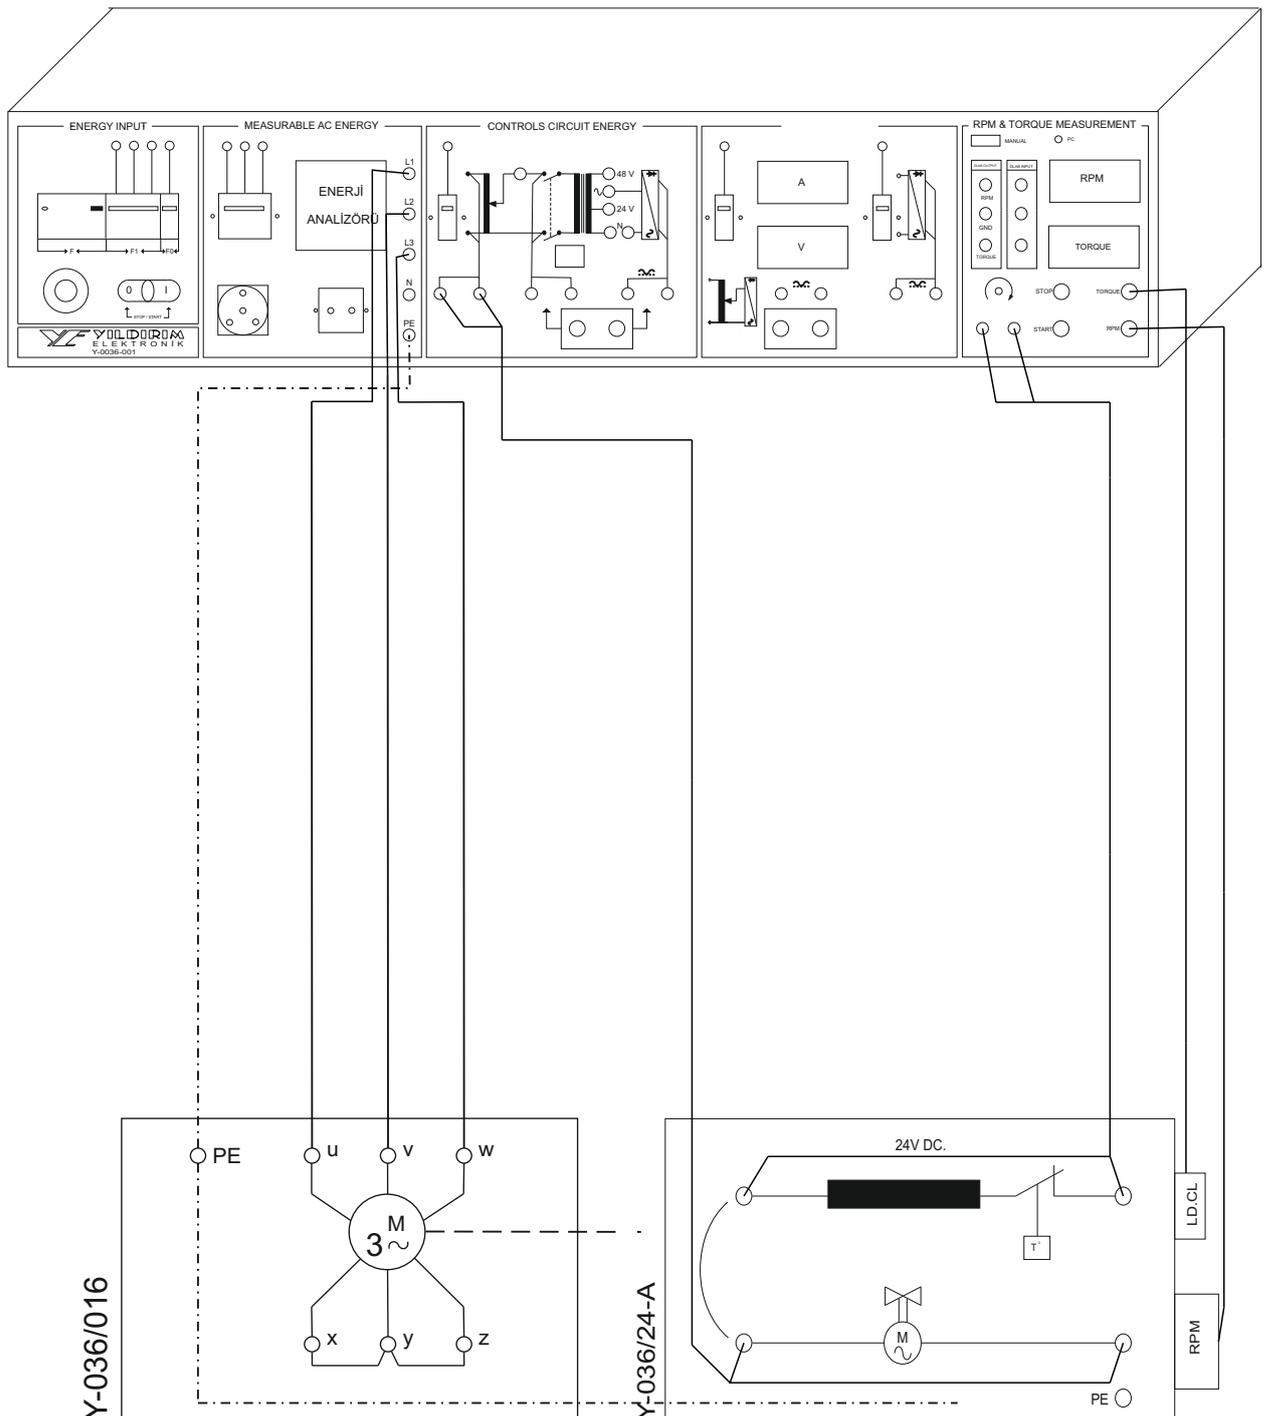

Figure 37.1:Connection diagram for direct start of the tri-phase asynchronous motor.
- Connect the circuit shown in the figure 37.1, 37.2.